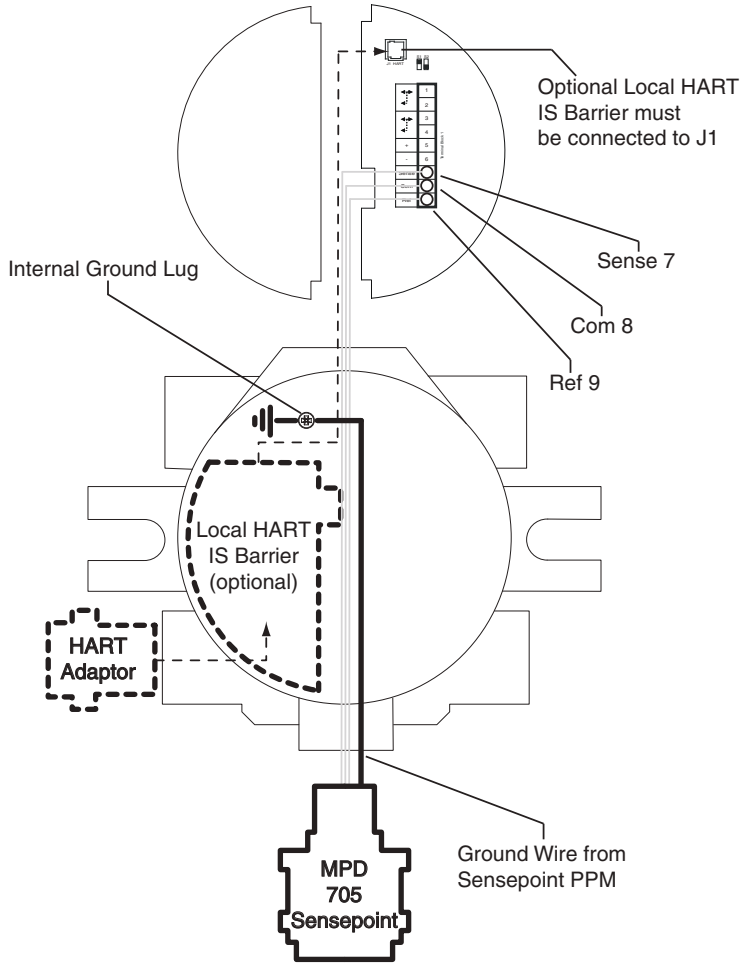
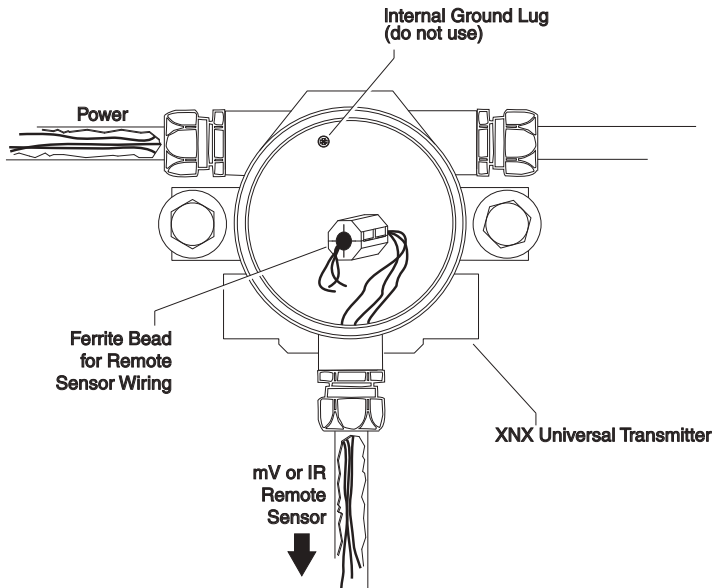

Figure 14. mV personality wiring
Figure 16. Ferrite bead wiring
10. At the transmitter, pass the wires through the ferrite bead as shown in Figure 16 and terminate the wiring at the pluggable terminal block as shown in Figure 14.
In remote mount MPD configurations, the three wires from the sensor that connect to the pluggable terminal block must be routed through the supplied ferrite bead (part no. 0060-1051, supplied in the accessory kit), as shown in Figure 16.